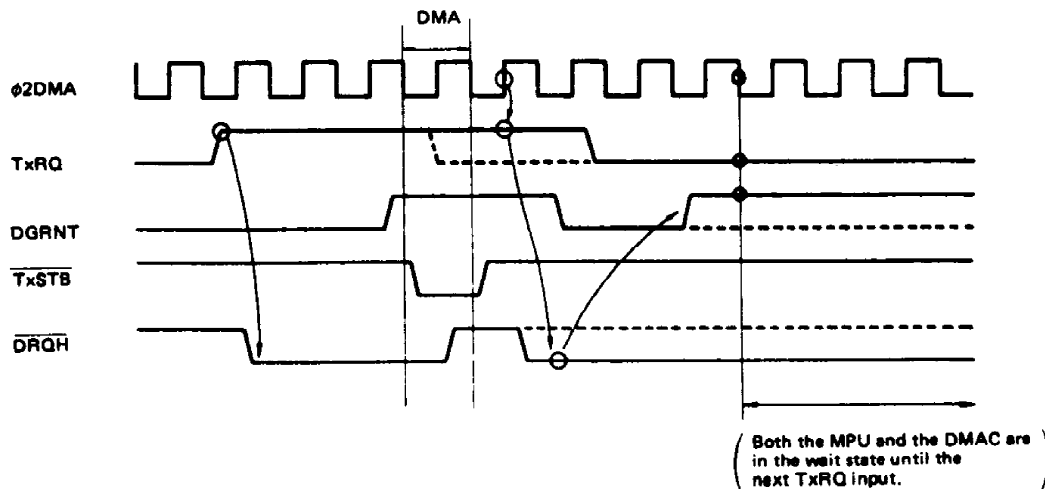

Figure 15 Extraordinary TxRQ Input (2)
- (2) In the case where TxRQ is not reset to "Low" though TxSTB has been driven. In this case, unless TxRQ returns to "Low" by the time ϕ_2 DMA rises after TxSTB has risen to "High", it is considered as a new I/O request, which leads the above-mentioned operation ①, ② → . If TxRQ falls to "Low" immediately after that, the same state as (1) happens (Fig. 15).